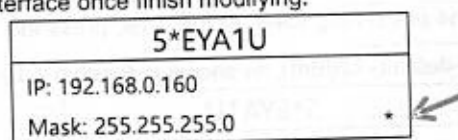

Figure 6.2.17
- (2) Gateway and subnet mask modification: press the \blacktriangledown key, when the "" is moved in the relevant menu, as shown in figure 6.2.17 and 6.2.18. Other parameters can be set up according to 6.2.6 (1) setting method,. (factory default gateway 255.255.255.0; default subnet mask: 192.168.0.1) press \rightarrow to return to 6.2.15 interface once finish modifying.